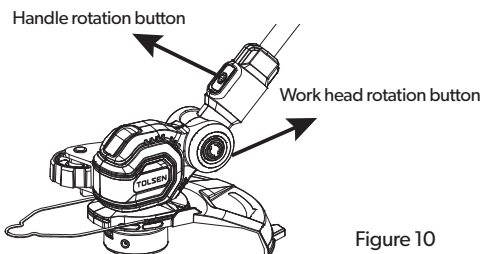

Figure 10
- Press the work head rotation button in the figure 10, Rotate to 0°
- Press the work head rotation button in the Figure 10, Rotate the Aluminum tube 90°.
- Once the adjustment is complete, as shown in Figure 10, you can edge trimming